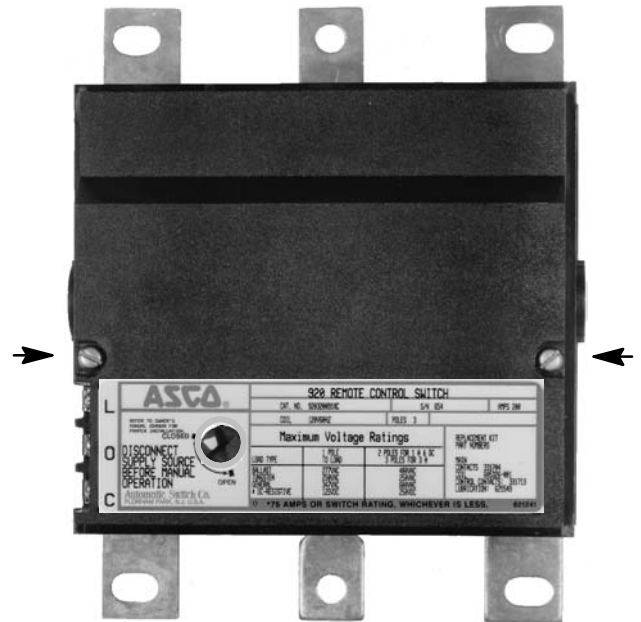

Figure 1. Two cover screws.
4. Remove the cover from the switch by removing two screws counterclockwise (arrows in Figure 1).